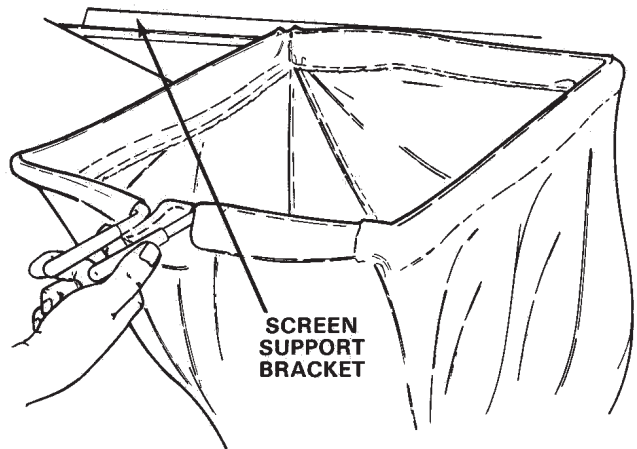

Figure 8
3. Slide grass bag under bag frame cover, positioning front edge of bag rod into screen support bracket on bag frame (Fig. 8).